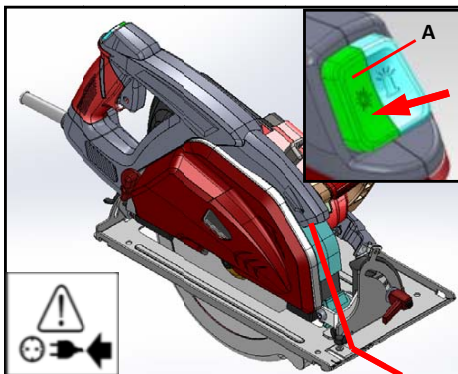

Fig.8
1. Push the left button "A" to turn on the laser (B), push again to turn off. Refer to Fig.8